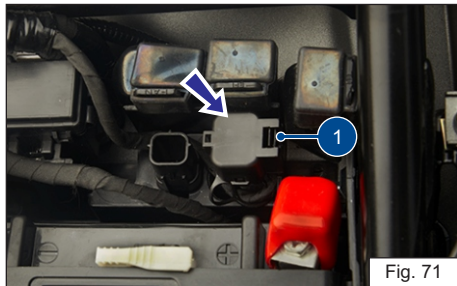

Fig. 71
- ♦ Gently pull out connector along with its cap from its location by releasing the lock (1) (ref. Fig. 71).